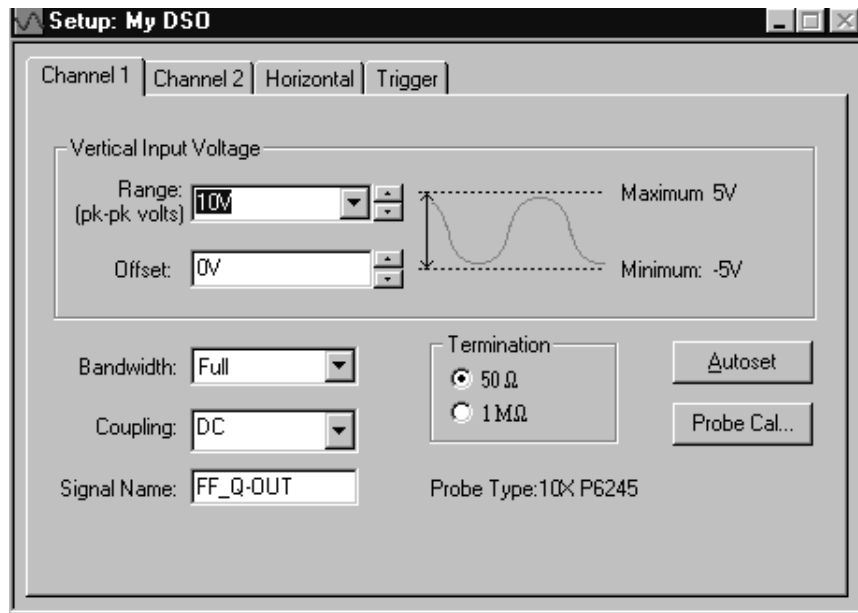

Figure 2–29: DSO channel 1 setups for Exercise 6
The DSO Setup window shows the setups for each vertical input channel, horizontal channel information, and trigger information. Your DSO setups for Channel 1 should be similar to Figure 2–29.
2. Click on the DSO Trigger tab. The DSO Trigger window should be similar to Figure 2–30.